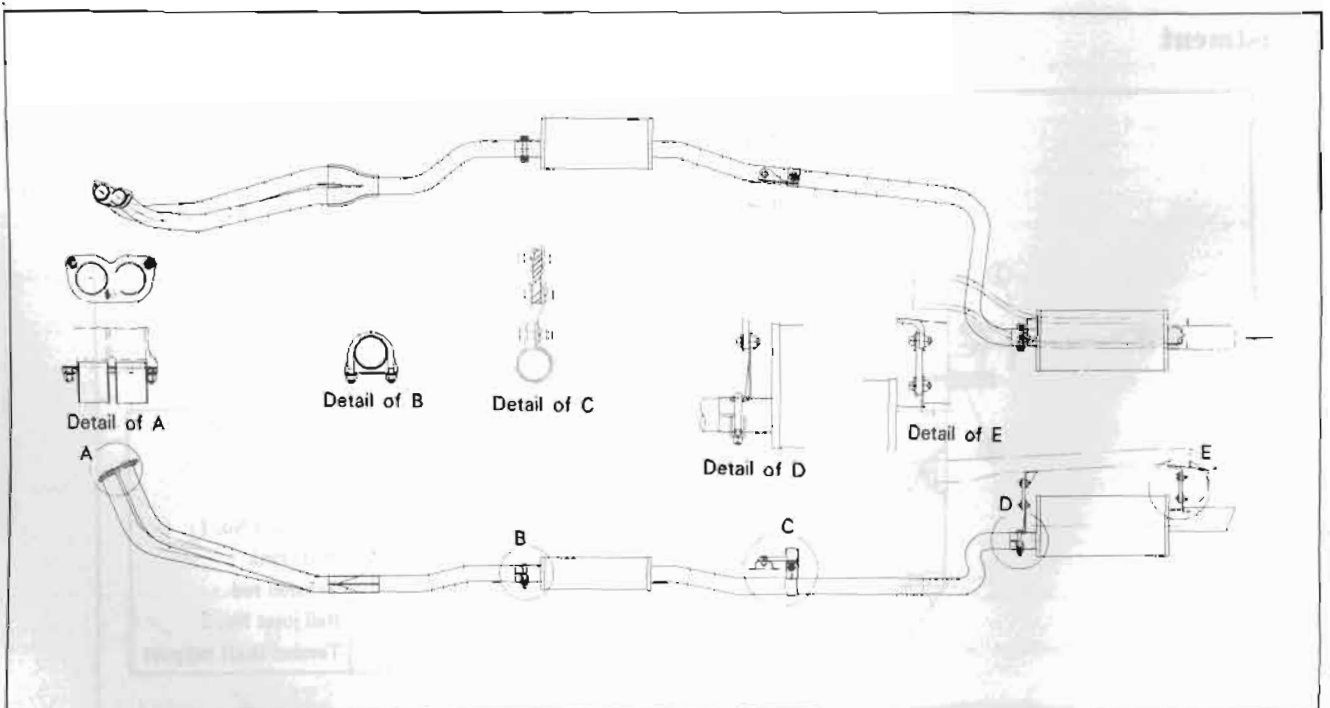

Fig. FE-3 Exhaust system
The exhaust system consists of three units providing front tube, pre-muffler and center tube, and main muffler and tail pipe. As seen in the Figure FE-3, the exhaust system is mounted at the points "C", "D" and "E" and clamped at the points "B" and "D" with U-bolts.
2. Remove the exhaust hanger strap (the point "E" shown in the Figure FE-3).
3. Remove the exhaust hanger strap (the point "D" shown in the Figure FE-3).
4. Remove the bolt (the point "C" shown in the Figure FE-3.) and dismount the exhaust system.
5. Remove the U-bolts (the points "B" and "D" shown in the Figure FE-3.), and separate the exhaust system into three sections.